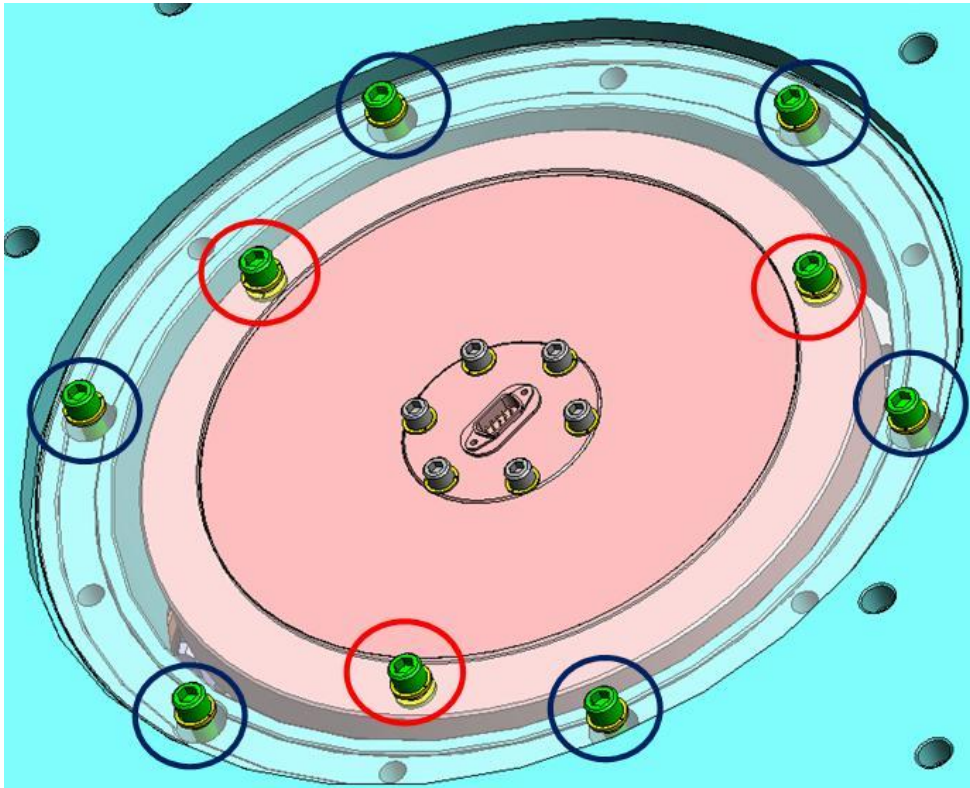

Figure 139: Vertical GS-13 attachment on D0901519 Keel Plate Up-Facing
- The inner perimeter of the diaphragm should be attached to the GS-13 pod with silver plated screws (circled in red on Figure 139) and the outer diameter to D0901519 Keel Plate Up-Facing with regular ones (circled in blue).